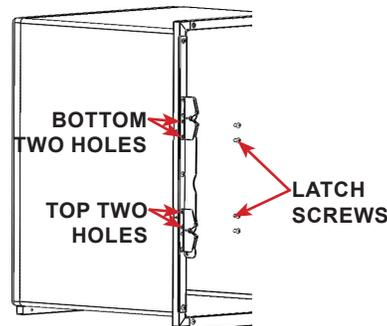

FIGURE 3.6 - Latch Assembly Installation
STEP 5: Install the latch assembly to the cage frame, tighten screws to secure the latch to the frame. See FIGURE 3.6